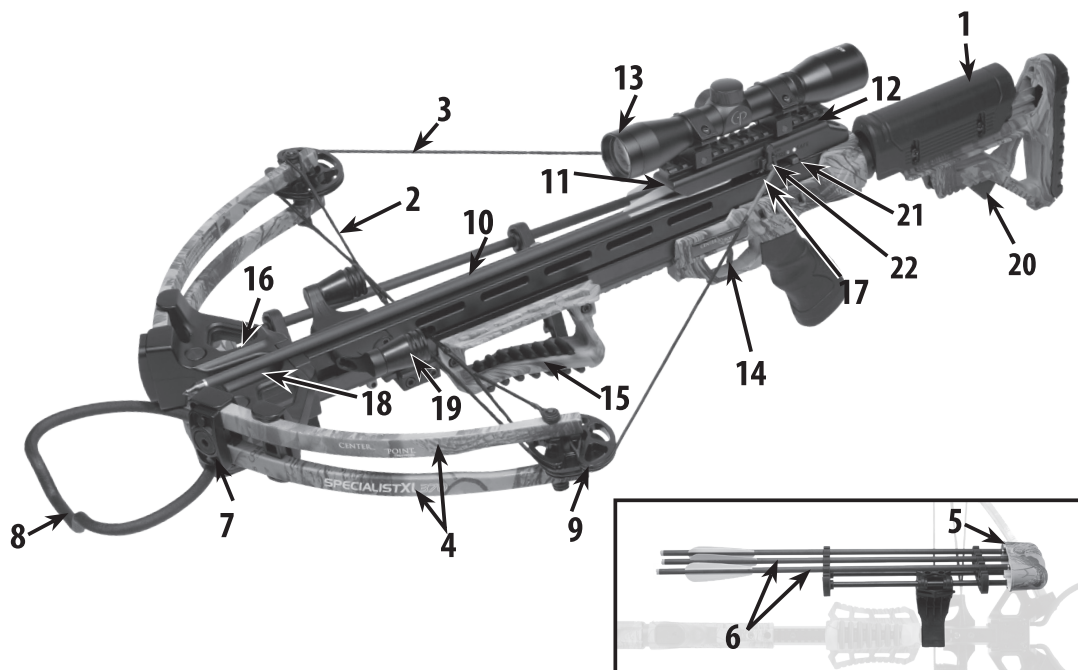

Fig. 2
3. LEARNING THE PARTS OF THE CROSSBOW (See Fig. 2)